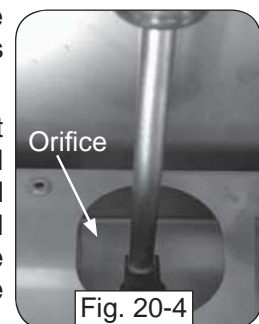

Fig. 20-4
5. Use a $\frac{3}{8}$ " hex nut driver to remove the exposed orifice (Fig. 20-4) and replace it with the correct orifice for the new gas. (See Table 1 at the beginning of this document for orifice sizes.)